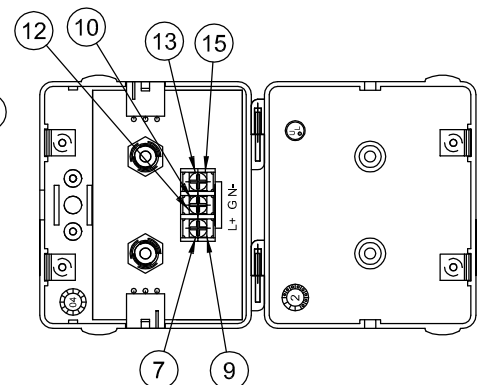

FIG. 3
5. Loosen Terminal Screw (7) at L+ (positive side), push supply wire (8) under Terminal plate (9) and tighten securely. (See fig. 3)
6. Loosen Terminal Screw (10) at G (ground), push supply wire (11) under Terminal plate (12) and tighten securely. (See fig. 3)
7. Loosen Terminal Screw (13) at N- (netural), push supply wire (14) under Terminal plate (15) and tighten securely. (See fig. 3)